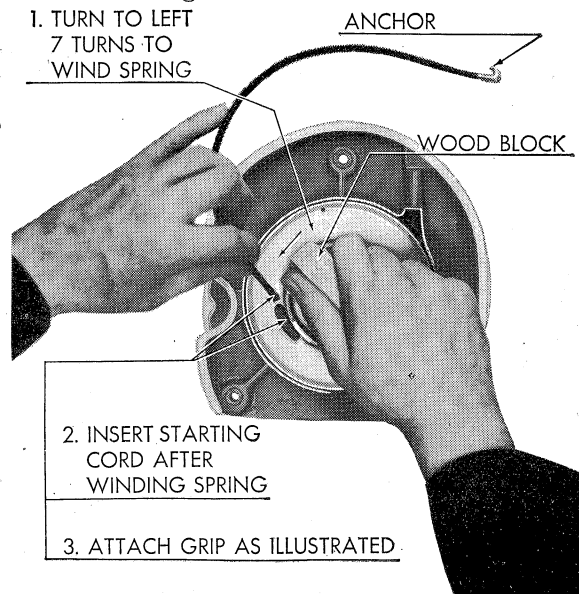

Fig. 25
4. Cut a small piece of wood to fit in ratchet as shown in Fig. 25.
5. Turn in anti-clockwise direction (right to left) 7 turns, using marker as indicated. Fig. 25. (Be sure to turn right to left—to do otherwise will damage the recoil spring.)
6. Insert starting cord as illustrated. Fig. 25.